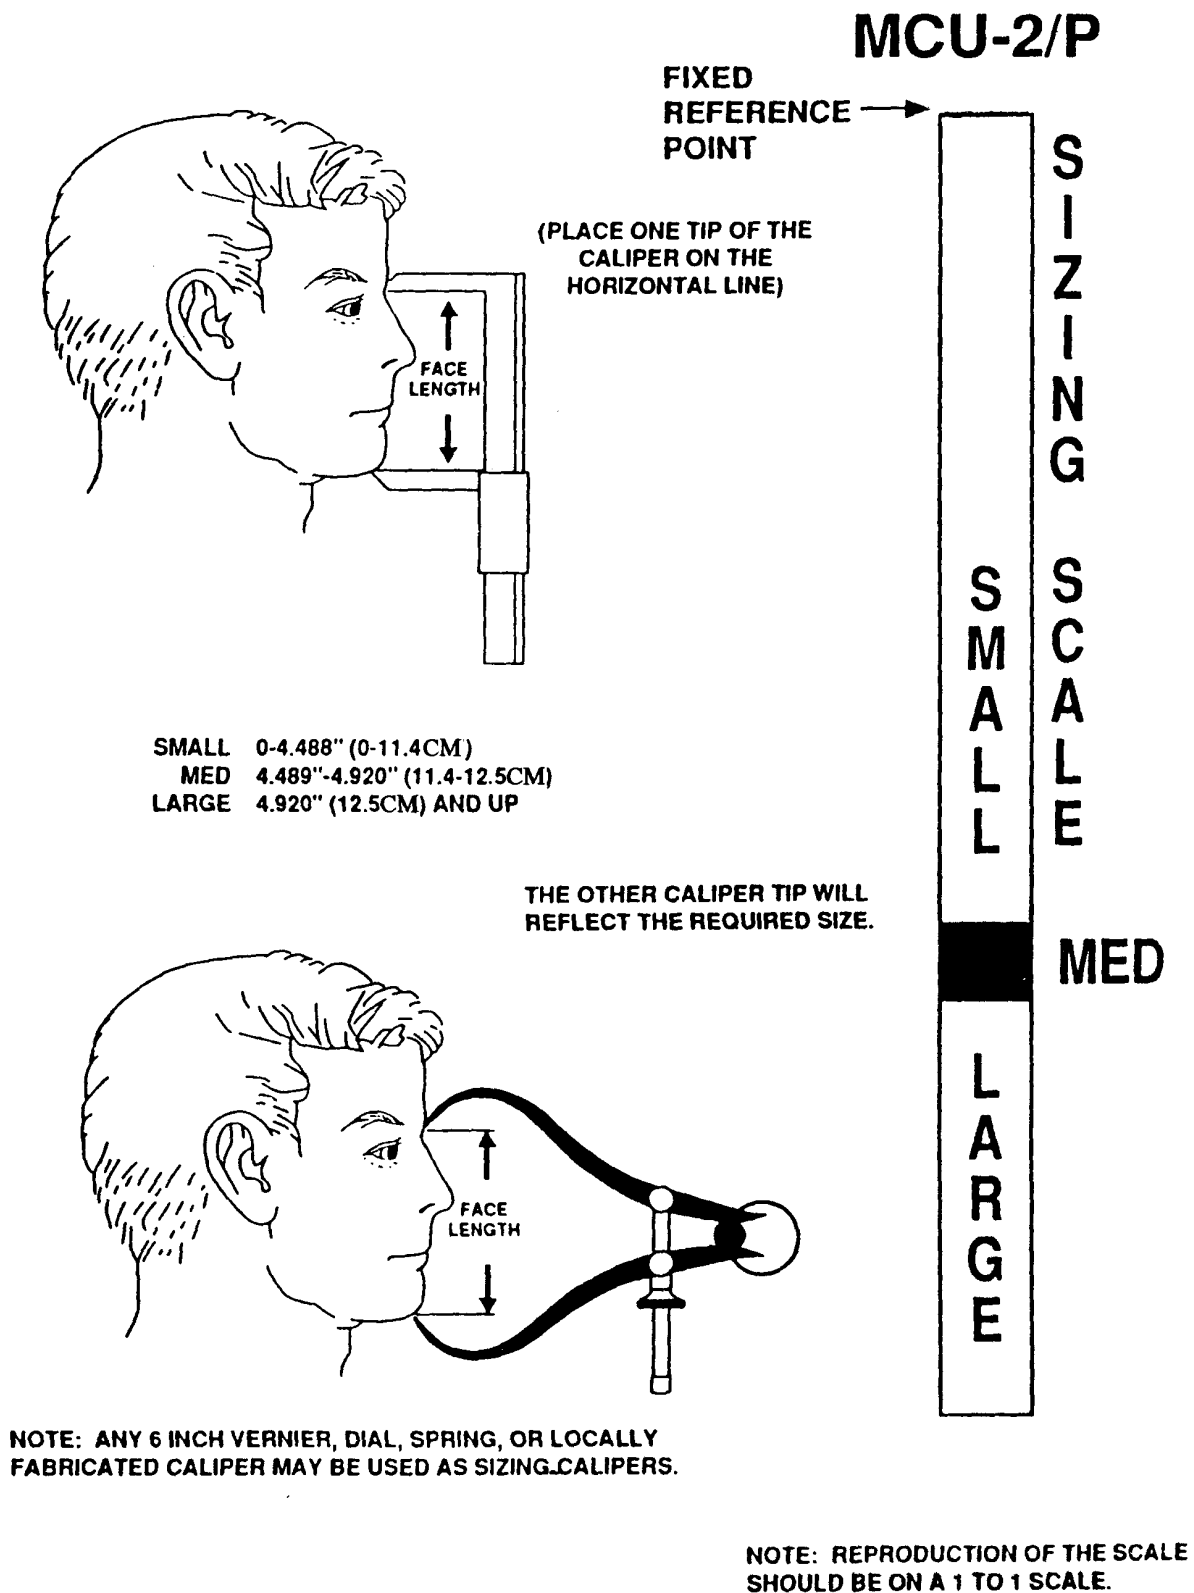

Figure 3-3. MCU-2/P Sizing Scale
- e. To determine the correct mask size with any 6 inch vernier, dial, or spring calipers: Refer to Figure 3-3, MCU-2/P Sizing Scale. Place caliper on the scale with one tip on the FIXED REFERENCE POINT. Align caliper with the scale and read the size where the other tip touches scale.